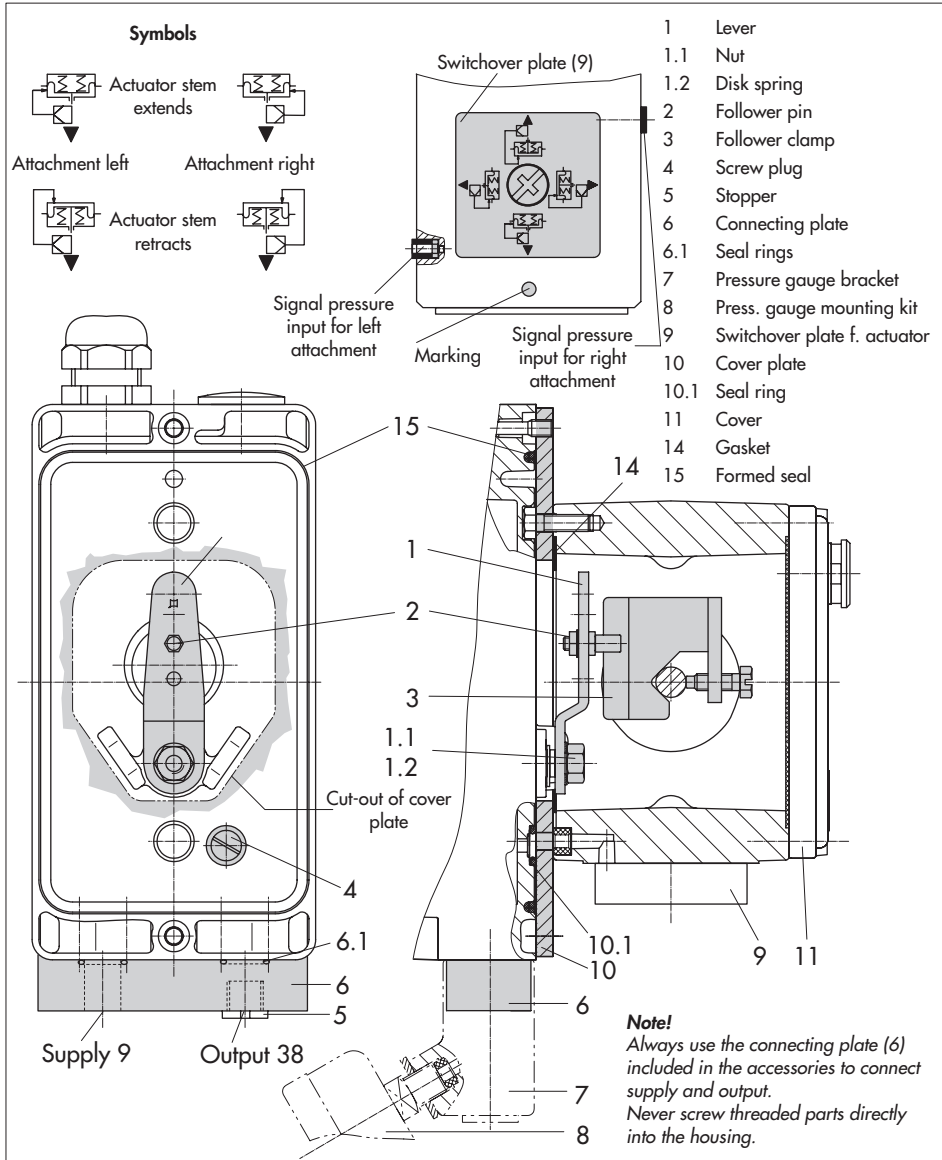

Fig. 3 · Direct attachment – Signal pressure connection for Type 3277-5 Actuator with 120 cm²
1. Mount connecting plate (6) or pressure gauge bracket (7) with pressure gauges onto the positioner, making sure both seal rings (6.1) are seated properly.
2. Remove screw plug (4) on the back of the positioner and close the signal pressure output "Output 38" on the connecting plate (6) or on the pressure gauge bracket (7) with the stopper (5) included in the accessories.
3. Place follower clamp (3) on the actuator stem, align and screw tight so that the mounting screw is located in the groove of the actuator stem.
4. Mount cover plate (10) with narrow side of the cut-out opening (Fig. 3, on the left) pointing towards the signal pressure connection. Make sure that the bonded gasket (14) points towards the actuator yoke.
5. **15 mm travel:** Keep the follower pin (2) at lever **M** (1) on the back of the positioner in the pin position **35** (delivered state).
7.5 mm travel: Remove the follower pin (2) from the pin position **35**, reposition it in the bore for pin position **25** and screw tight.